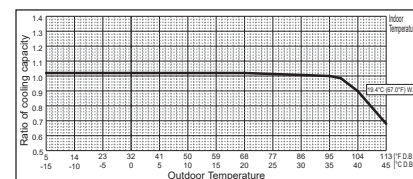

Figure 2 Outdoor unit temperature correction
(5) Outdoor Unit Correction Calculation
- Outdoor Design Dry Bulb Temperature Correction (98.6°F)      0.98 (Refer to Figure 2)